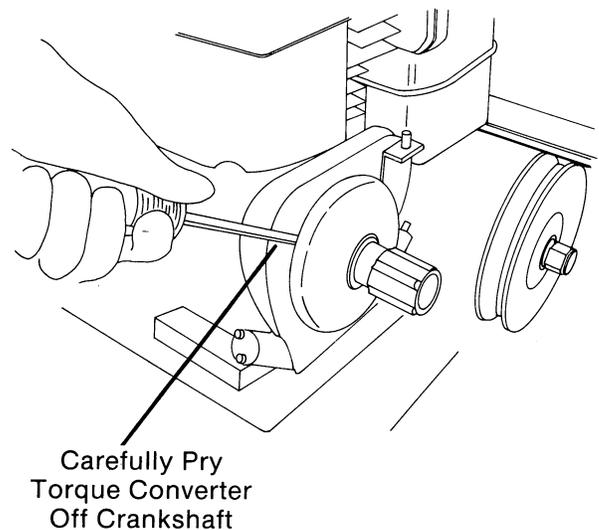

FIG. 13
- C. Insert screwdriver between engine housing and rear of torque converter and carefully twist screwdriver prying torque converter assembly off crankshaft. (Fig. 13)